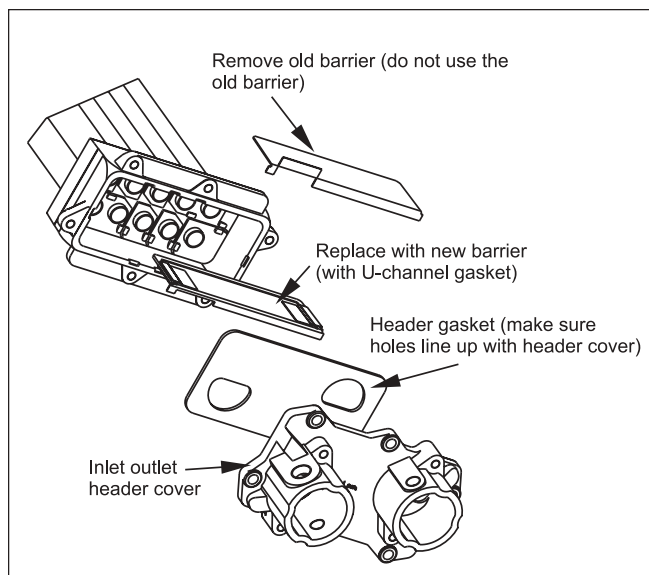

Figure 3. Inlet/Outlet Header Side of Unit.
2. Disconnect the inlet and outlet piping from the boiler, Document 2064 for VW and Document 2060 for HH. Remove the inlet outlet header cover from the heat exchanger. Remove the old water barrier from inside the heat exchanger header (see Figure 3).
4. Attach the inlet/outlet header to the inlet/outlet side of the heat exchanger. Place a new header gasket in-between the heat exchanger and the inlet/outlet header. Make sure the gasket holes line up with the holes on the inlet/outlet header cover (see Figure 3). If the holes do not line up, flip the gasket over so the holes on the gasket line up with the holes on the header cover.